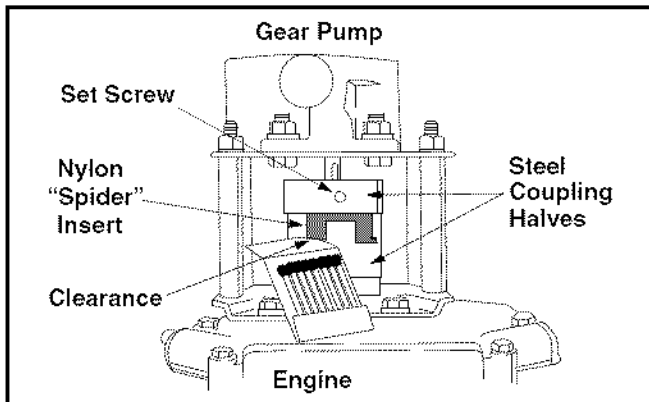

Figure 11
- Set .010" to .060" clearance between the nylon "spider" and the engine coupling half by sliding a matchbook cover between the nylon "spider" and the engine coupling half and moving pump coupling half as needed. Secure pump coupling half with set screw. See Figure 11.